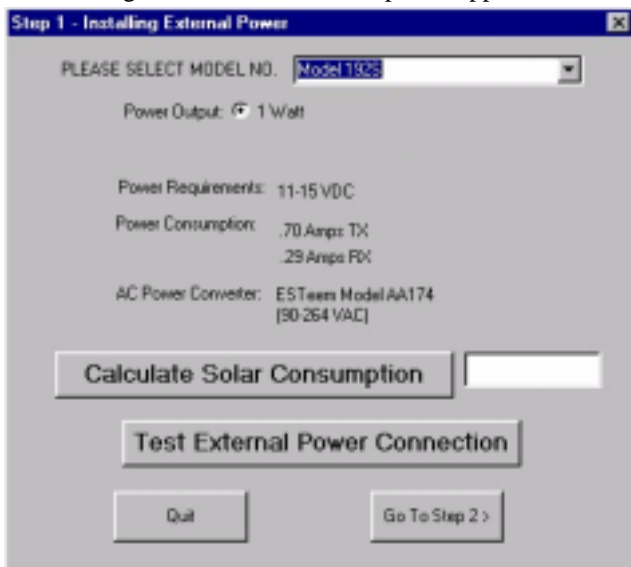

Figure 4: Step 1 - Installing External Power
2. Step 1 – Installing External Power window will be displayed (Figure 4). Select Model 192S on the menu and the voltage and current specifications will be displayed. The ESTEem model AA174 power supply can be used with all ESTEem products. If you are using the ESTEem in a solar power application,